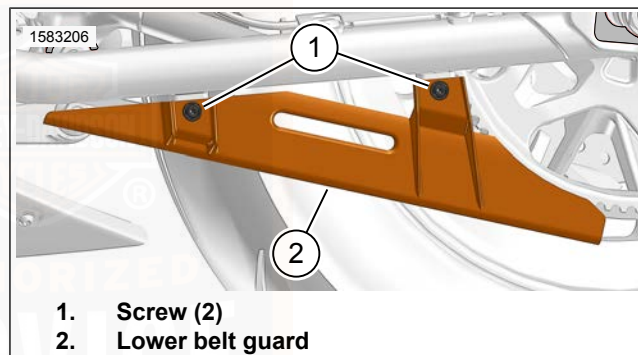
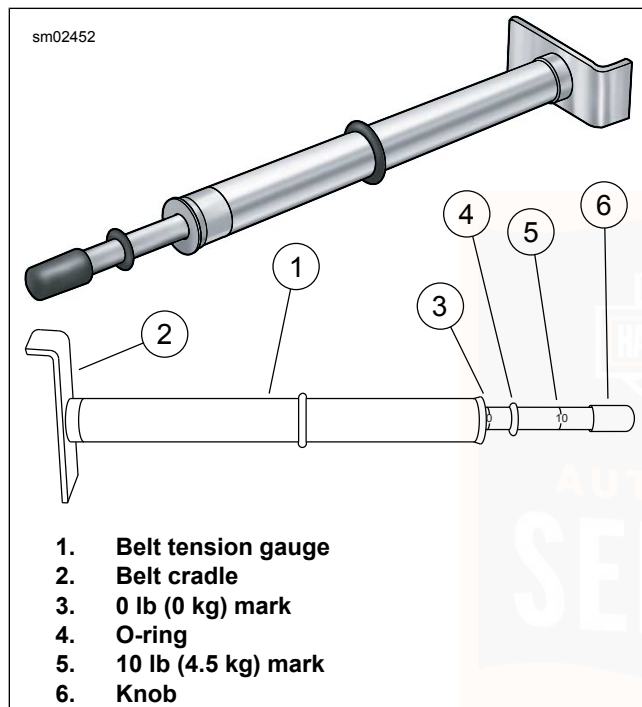

Figure 64. Lower Belt Guard
Figure 67. Belt Tension Gauge
2. See Figure 67. Measure belt deflection using:
2. See Figure 64. Remove lower belt guard.
- a. Remove screws (1) and lower belt guard (2).
3. See Figure 67. Measure belt deflection using:
6. See Figure 64. Install lower belt guard.
- a. Place lower belt guard (2) in position.
- b. Install screws (1). Tighten.